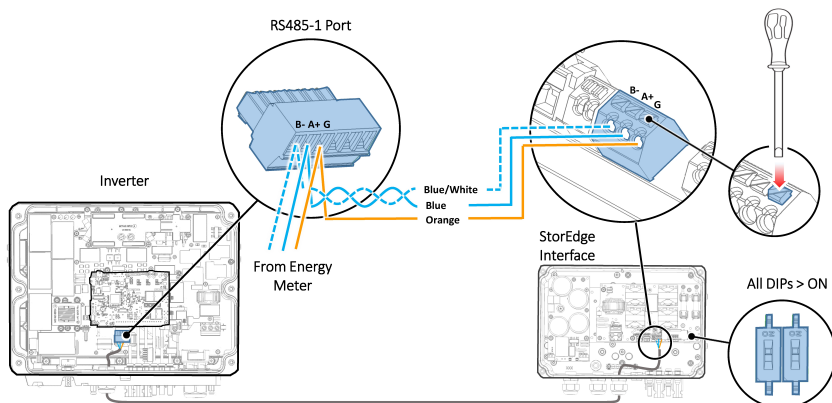

Figure 7: Communication cable connection - Inverter to StorEdge Interface
1. Connect one end of the communication cable to the RS485 terminal block in the StorEdge Interface (see *Figure 7*):